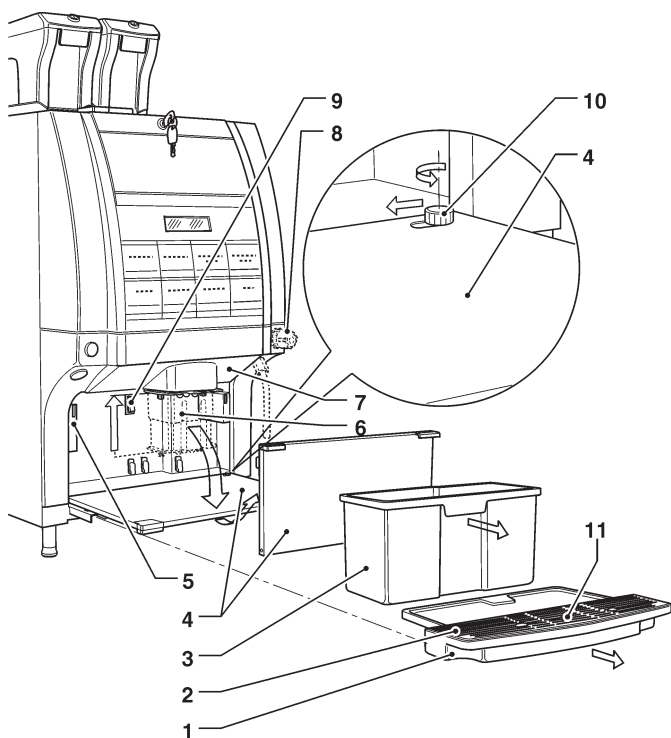

Fig. 9
The waste trays can be easily extracted even if the door is closed (see fig. 9) to enable the user to empty and clean them quickly.
- remove the powder funnels, the water funnels, the collection boxes, the powder deposit drawers and the whipper motor impellers from the mixers (see fig. 9);